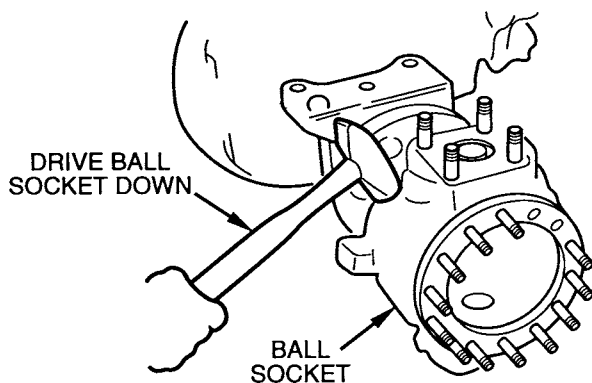

Figure 11 Unseating Bearing Caps
14. Keeping the trunnion bearing cones (15) fully seated, drive the axle ball socket (16) down so the upper trunnion bearing cup (15) moves up and out of the ball socket at least 1/8" above the trunnion bearing cover parting surface. Repeat for lower trunnion bearing. (See Figure 11).